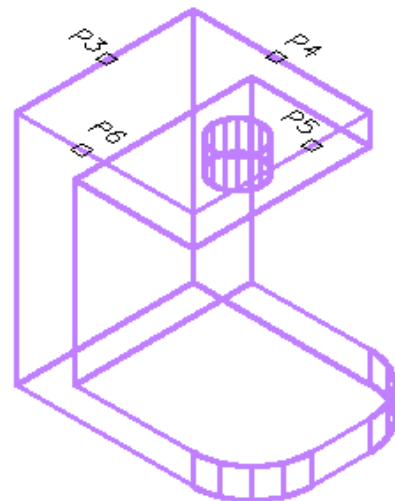

Figure Step 8
Step 8 Enter the FILLETEDGE command, as shown below, to fillet the top edge. (Figure Step 8)